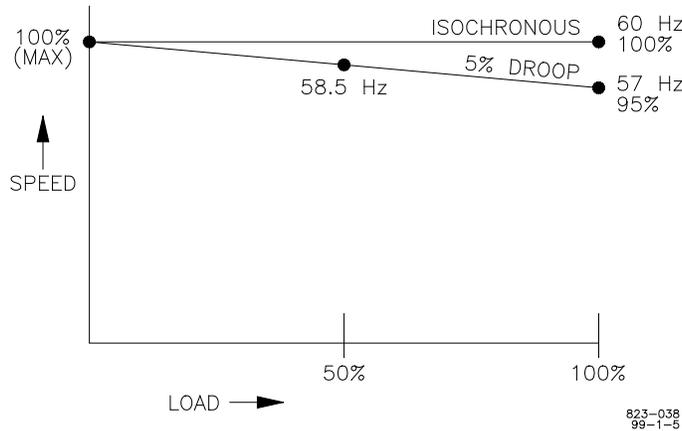

Figure 3-3. Droop Adjustment
3. Apply full load and adjust the DROOP potentiometer to give the desired speed. (If only 50% loading is possible, 58.5 Hz would indicate 5% droop. See Figure 3-3.)